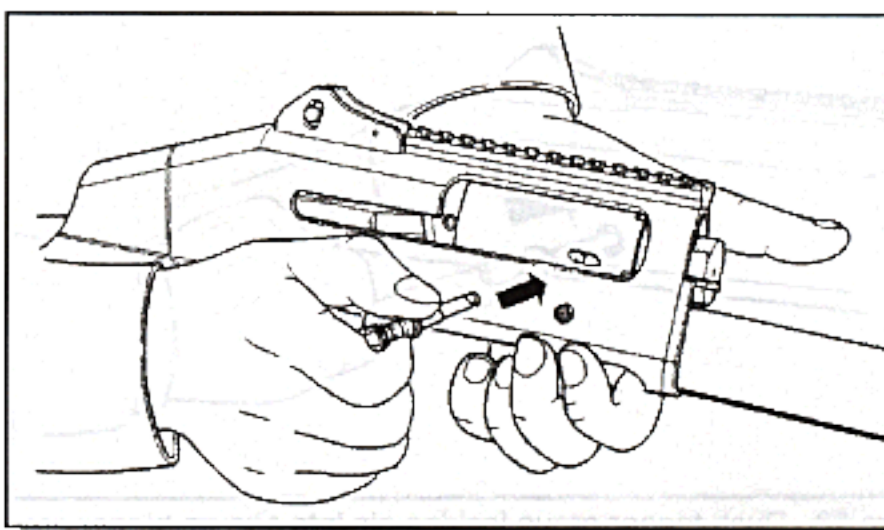

Figure 40. Inserting the bolt handle into the bolt group
5. **Install bolt handle** – Insert the bolt handle into the bolt carrier through the ejection port. Tug lightly on the bolt handle to insure that it is retained by the bolt handle détente and is secure in the bolt assembly (**Figure 40**).